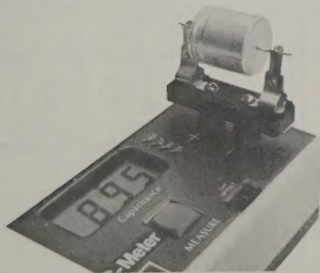

FIGURE 2-2. MEASURING CAPACITOR WITH COMPONENT CLIP IN BANANA JACKS
- b. The banana jacks (marked "+" and "-") to the left of the connector strips measure larger axial lead capacitors through the use of component clips which plug into the banana jacks as shown in Figure 2-2. Capacitors on rolls may also be tested without removing them. Care should be exercised to align the polarity poles (+ to +, - to -) where applicable.